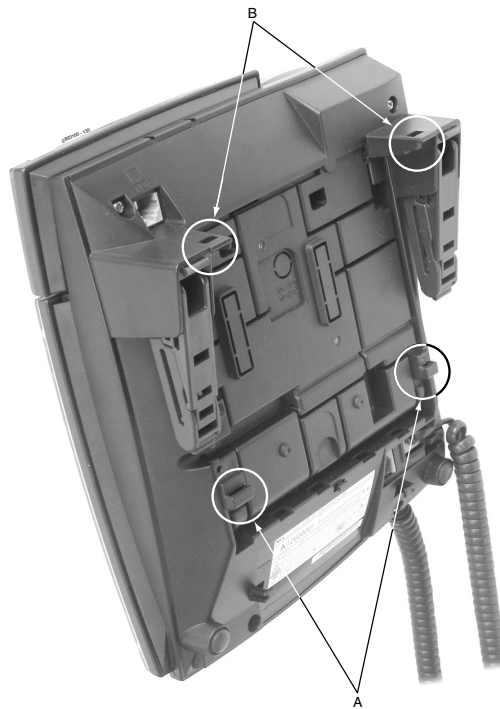

Figure 4-82: BRACKET HOOKS
2. Attach the phone to the wall-mount bracket by inserting the bottom hooks (indicated by “A” in Figure 4-82 *BRACKET HOOKS* on page 4-66) on the bracket into the back of the phone (Figure 4-84).